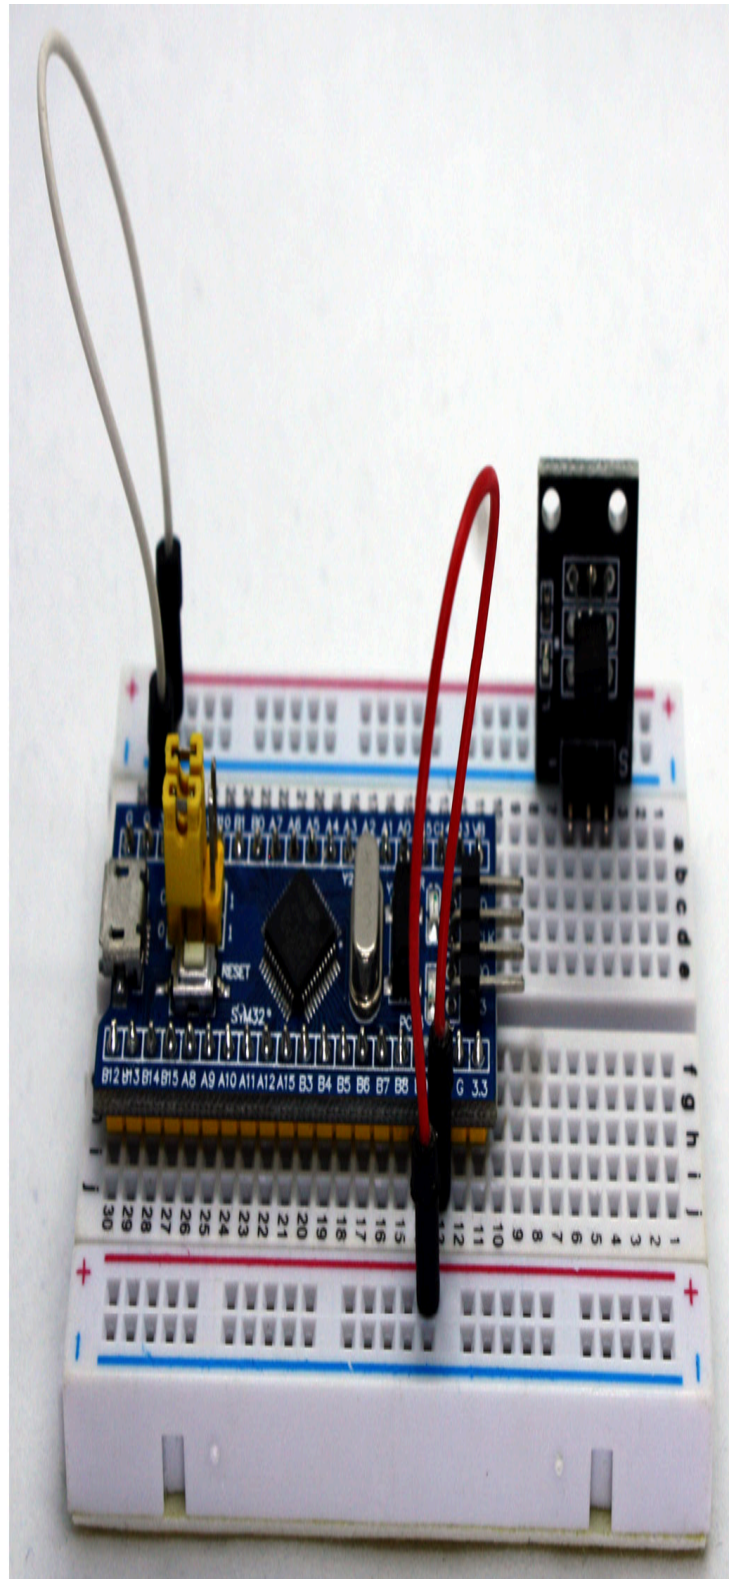

Figure 9.3 – Connections to the power supply
2. Next, we will power up the temperature-logging system with an external power source. To do this, connect the STM32 Blue Pill's 5 V pin to the red rail on the solderless breadboard and a ground pin to the blue track, as shown in the following photo (*Figure 9.3*):